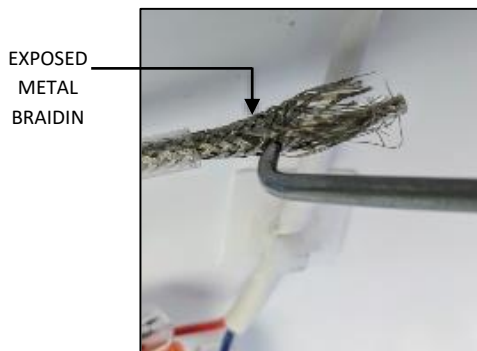
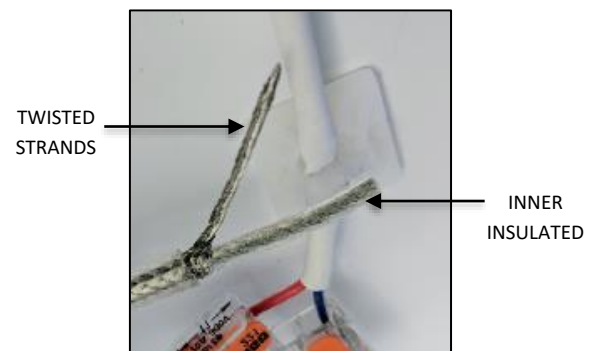

FIG. 21
FIG. 22
- Using a small pointed object, begin unweaving the exposed metal braiding as shown in FIG. 21 below. Position the unwoven metal strands on one side of the inner insulated wire and twist the individual strands together as shown in FIG. 22 below.